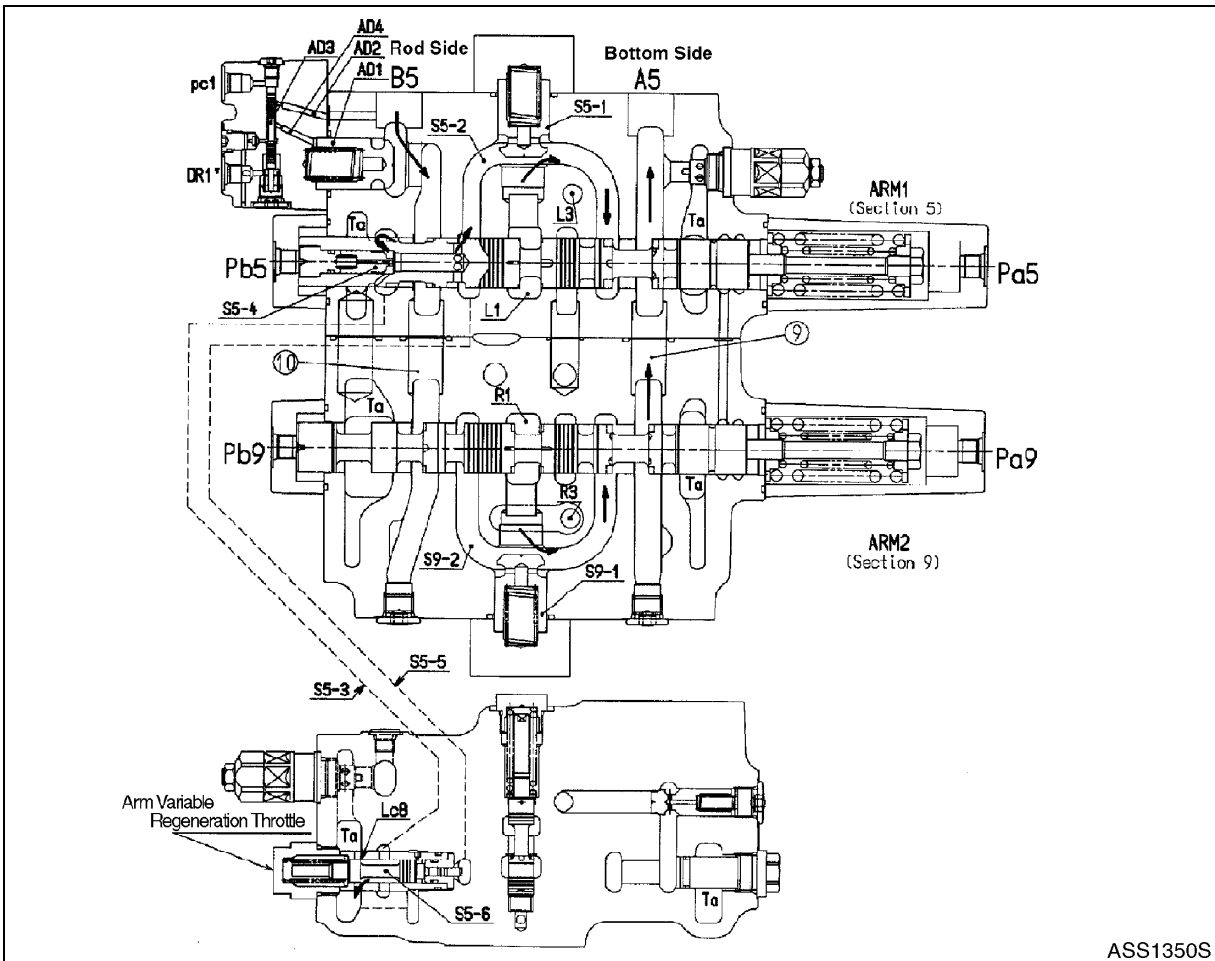

Figure 10
3. Variable regeneration (when crowding) (Figure 10)
3. The parallel circuit of arm 1 (section 5), after narrowing at the throttle (Lc9) in poppet (S5-8) allows oil from parallel passage (L3), to join with oil in passage (S5-2, Figure 10).